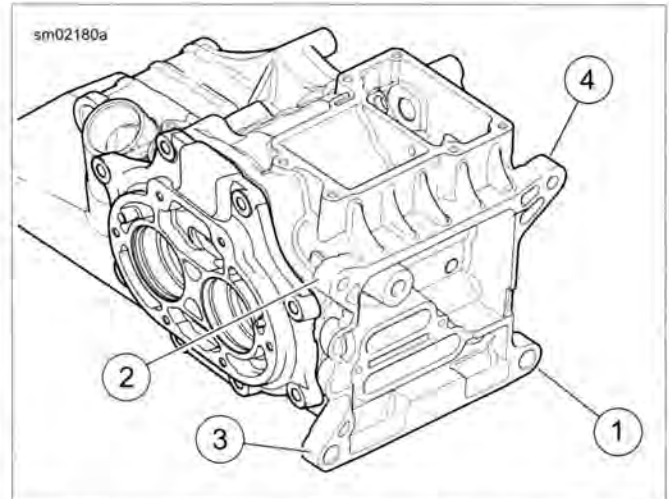

Figure 3-11. Transmission Housing to Crankcase Tightening Sequence
5. See Figure 3-11. Tighten the transmission mounting bolts in the sequence shown: